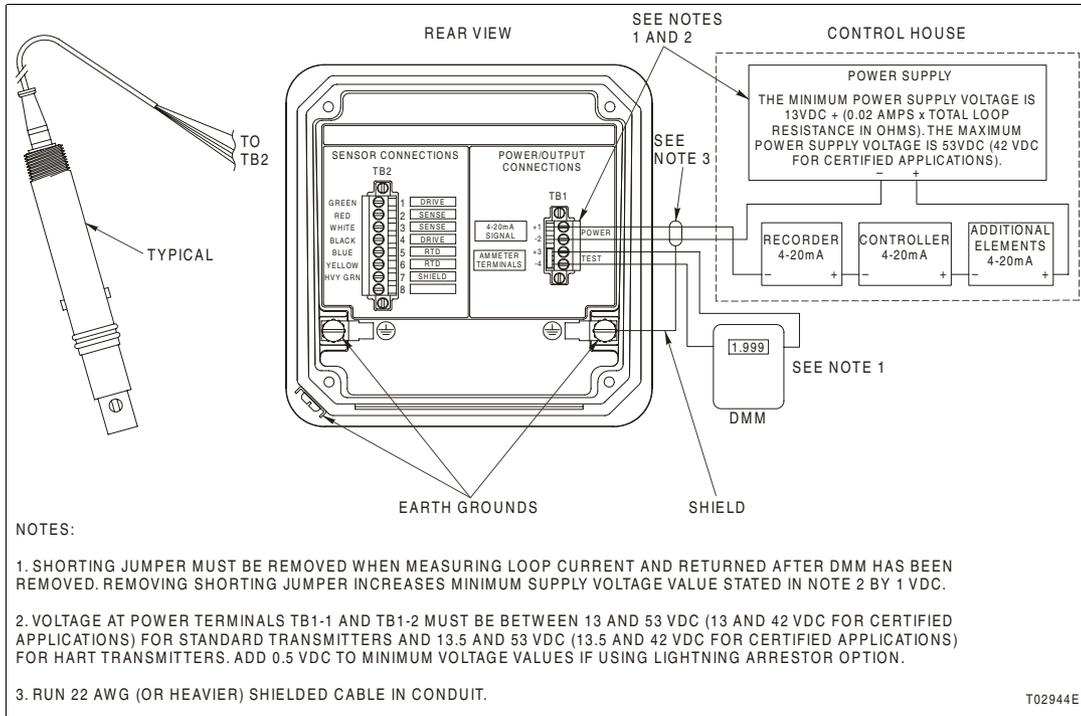

Figure PR8-1. Output Calibration Setup
2. Use the small flat-blade screwdriver to remove the shorting jumper from the test terminals, TB1-3 (+) and TB1-4 (-), as shown in Figure PR8-1.